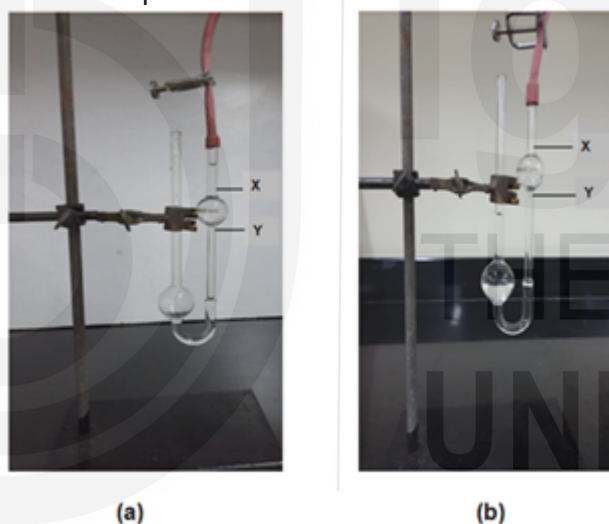

Fig. 8.4: Measurement of time for the flow of liquid
3. Now, introduce a definite volume of the given detergent solution (10 cm³) into the bulb C, and suck the liquid up into the bulb A with the help of the rubber tube attached to the end D somewhere above the mark X, See Fig. 8.4 (a) below which is given again for reference. Make sure that there is no air bubble inside the liquid.
4. Now, allow the liquid to flow freely through the capillary upto the mark X. Start a stop watch note the time t_1 for the flow of the liquid from mark X to mark Y, See Fig. 8.4 (b) above.